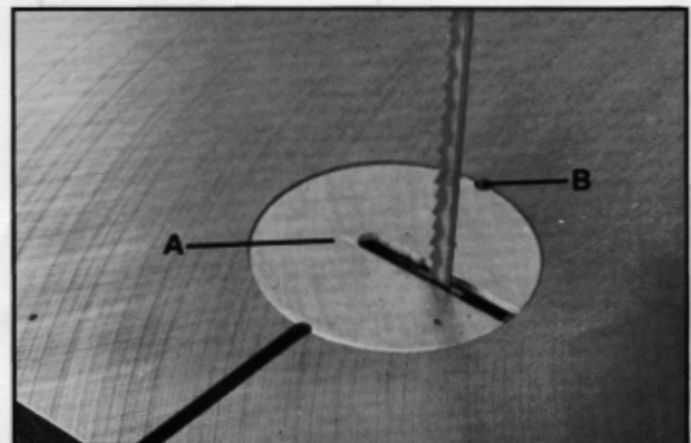

Fig. 27
Place table insert (A) Fig. 27, in the hole provided in the table making sure the pin (B) in the table engages one of the indents in the table insert.